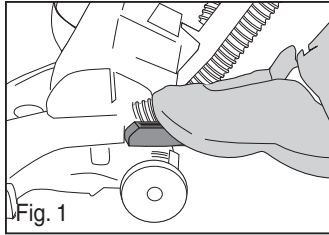

Fig. 1
- 1) Use handle release to lower handle flat onto floor (Fig. 1).
- 1) Remove hose from hose retainer. Flexing the hose will help loosen any blockage (Fig. 1).